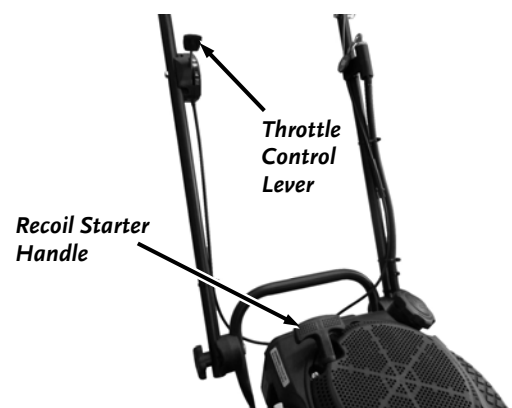

Figure 11
1. Push the Throttle Control Lever on the right side of the Handlebar (**Figure 11**) all the way forward (Rabbit or Choke position depending upon model).